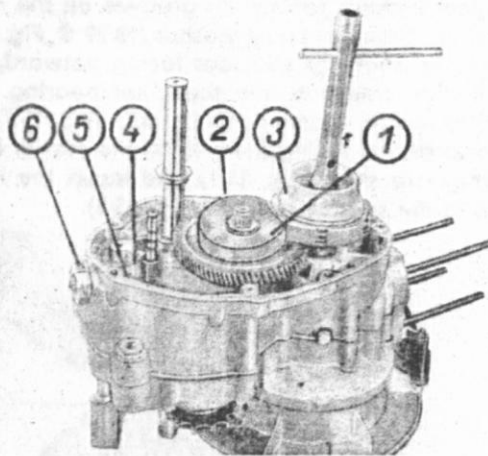
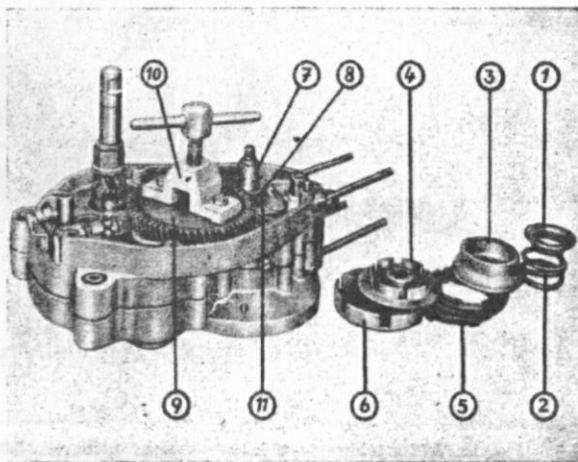

Fig. 8: Primary drive
Fig. 9: Extracting the driving pinion and dismantling the clutch
securing plates of nuts on countershaft and crankshaft journals, fit sprocket holder (special tool No. 050.7014) (Fig. 8/1) on large driving pinion (Figs. 8/2 and 9/9), and loosen nuts (Fig. 8), first the nut of the large driving pinion, then the nut of the clutch), remove securing
plates spring collar (Fig. 9/1) of clutch spring (Fig. 9/2), spring, and spring cage (Figs. 8/3, and 9/3) as well as clutch hub (Fig. 9/4) with discs (Fig. 9/5), thrust washer, clutch housing (Fig. 9/6) with bushing (Fig. 9/7), and thrust washer (Fig. 9/8).
2. Extract large driving pinion (Fig. 9/9). For this purpose screw on extractor (Fig. 9/10 special
3. Press out shaft seal rings (Fig. 9/11), if they are defective (hard). Both seal rings are mounted with their caulking edges facing inward.
5. Dismantling the gearshift shaft: Remove lock washer (Fig. 8/4), disc, and cotter, and pull out the gearshift shaft. Remove the gearshift lever (Fig. 8/5).
1. Fit large driving pinion (Fig. 8/2) on countershaft, assemble thrust washer (22/15/1.7) (Fig. 9/8), its sunk side facing downward, as well as greased bushing (Fig. 9/7), cone up, on crankshaft journal.
2. Assemble clutch housing (Fig. 9/6), thrust washer (26/15/1), and clutch hub (Fig. 9/4) on crankshaft journal.
one steel disc (Fig. 9/5),
and put on spring cage (Fig. 9/3), clutch spring (Fig. 9/2), and spring collar (Fig. 9/1).
4. Put securing plates of nuts on the ends of countershaft and crankshaft, screw nut on countershaft, lock large driving pinion by means of special tool No. 050.7014, and tighten nut (Fig. 8).